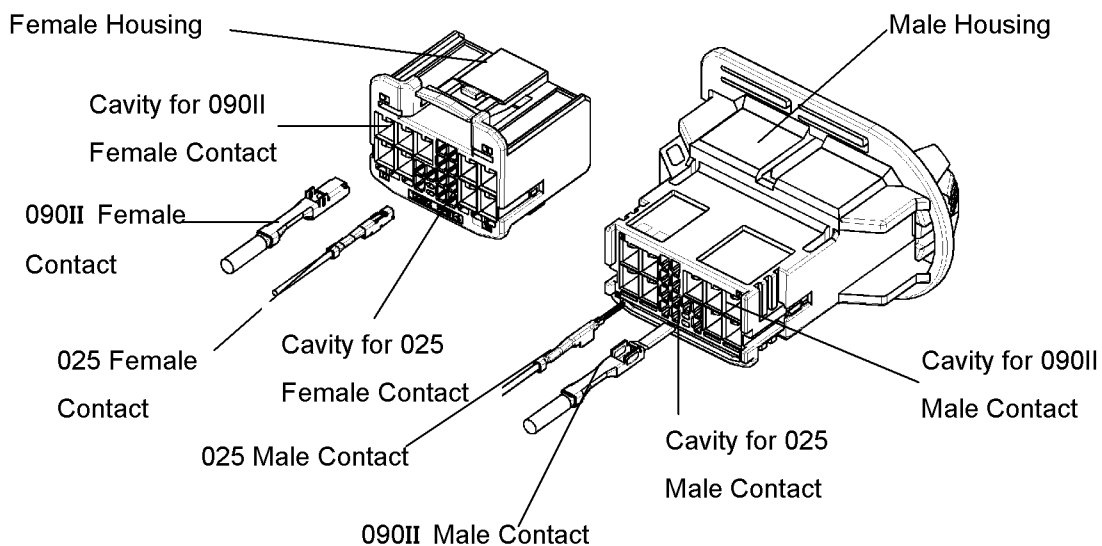

Fig.9
(4) Insert the contacts into the housing with same direction as shown in Fig.9. The insertion is finished when the lance(025:Contact Lance,090II:Housing Lance) is locked and the contact can not be more inserted.
(5) By pulling the contact by 20N MAX, check to make sure that the contact can not be withdrawn.